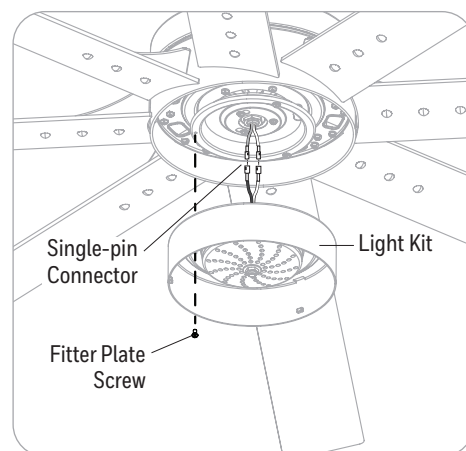

Figure 5.6
6. Reinstall two of the three previously removed light pan screws onto the light pan. **Note:** Only tighten the screws half way. Then, connect the single-pin connector from the fitter plate to the single-pin connector from the light kit -- Blue to Black and White to White. Align the slotted holes in the light kit with the loosened screws in the fitter plate. Turn light kit clockwise and replace the previously removed fitter plate screw. Tighten all screws (Figure 5.6).